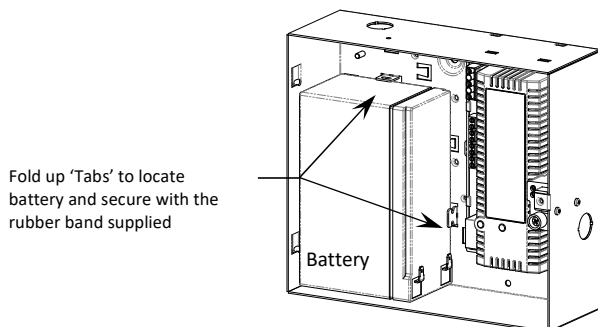

Fig 2 GEN2-08-A
- 13) Position the battery as shown in Figures 2 - 6 below, avoiding the cover earth connection spades and the cover retaining screws. Fold up 'Tabs' to locate battery and secure with the rubber band supplied.